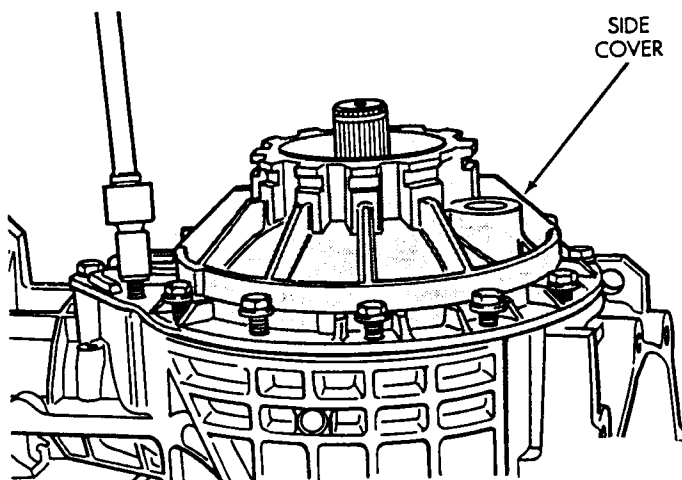

Fig. 41 Differential Cover Installation
(46) Apply a 1/8 inch bead of sealant to differential cover flange. Then install differential cover with sealant (Fig. 41) and tighten cover bolts.